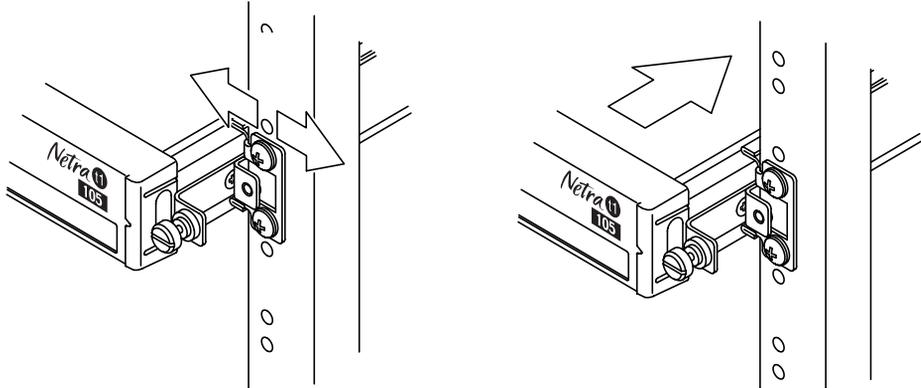

FIGURE 5-5 Adjusting the Mount and Tightening the Thumbscrew
7. Check the alignment of the thumbscrews either side of the Netra t1 system (see FIGURE 5-5).
9. Fasten the thumbscrews at the front of the Netra t1 system finger-tight (see FIGURE 5-5).